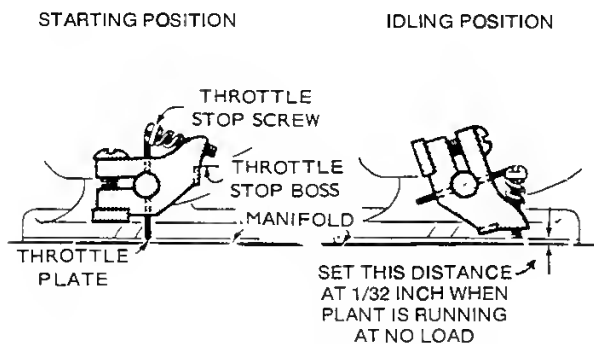

FIGURE 7a. THROTTLE STOP SCREW
Throttle stop screw is located on the throttle shaft lever (side of carburetor by ignition coil). It must be adjusted and set for 1/32 inch clearance over the manifold surface when the engine is running with no load. See Figure 7a.
1. Turn both mixture screws in until lightly seated (Figure 7a), then back the idle mixture screw out 1 turn and the main mixture screw out 1-1/4 turns.